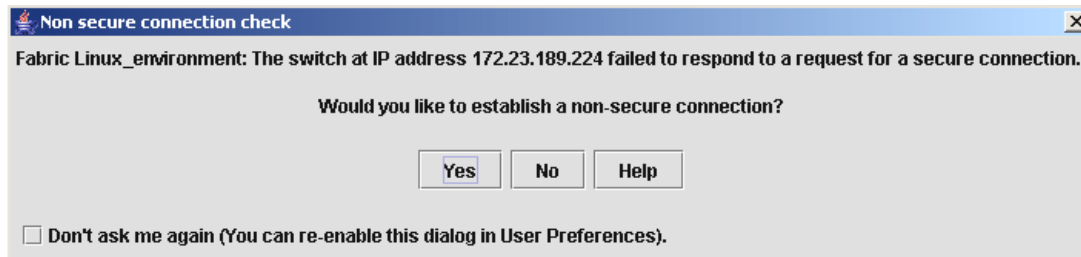

Figure 8-11 Non-secure connection verification window
2. Enter a Fabric Name, then proceed with typing in the login name and password and click **Add Fabric**. You will see a window similar to Figure 8-11.